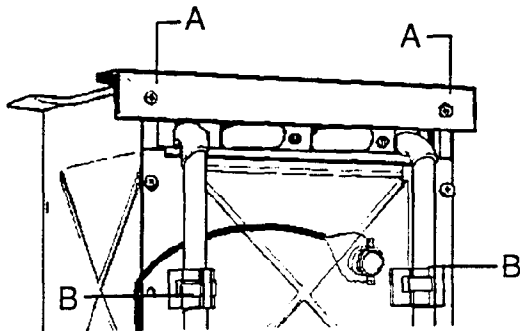

Fig.11
a) Remove the two screws (A) holding the deflector plate in position (see fig. 11).